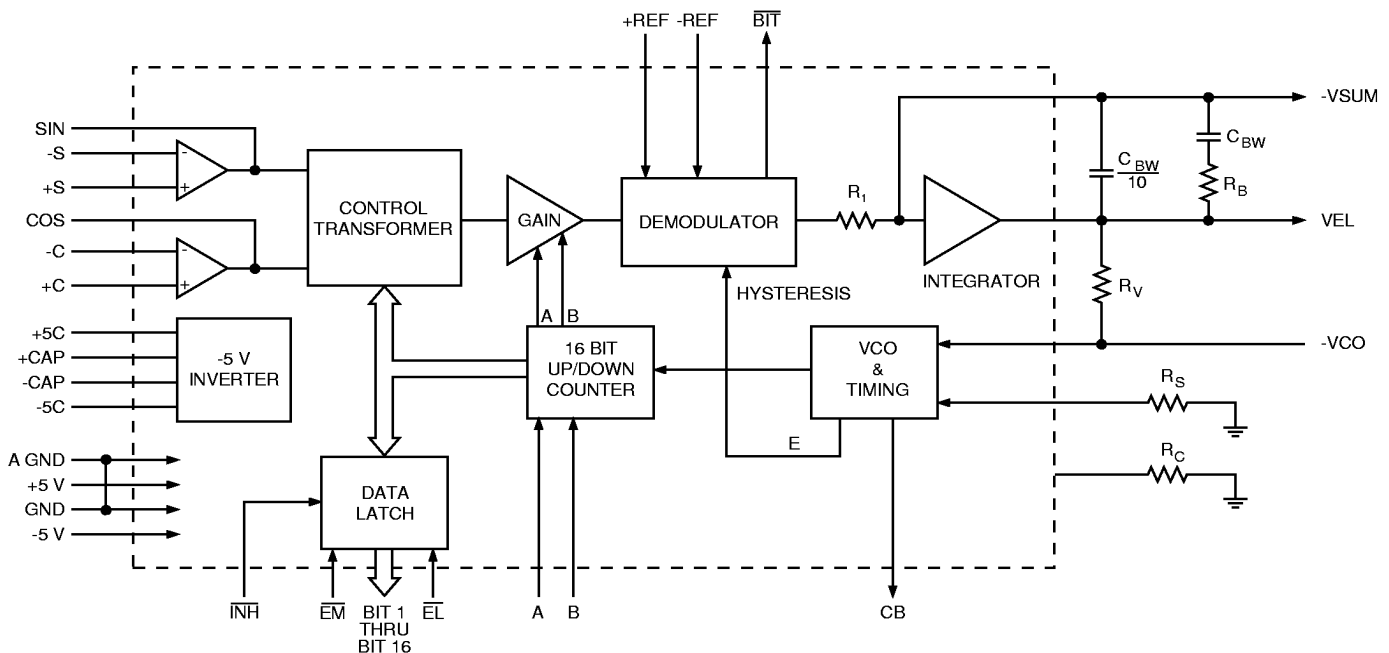

FIGURE 1. RDC-19220 SERIES BLOCK DIAGRAM
FIGURE 1 is the functional block diagram of the RDC-19220 Series. The converter operates with ± 5 Vdc power supplies. Analog signals are referenced to analog ground, which is at ground potential. The converter is made up of two main sections; a converter and a digital interface. The converter front-end consists of sine and cosine differential input amplifiers. These inputs are protected to ± 25 V with $2\text{ k}\Omega$ resistors and diode clamps to the ± 5 Vdc supplies. These amplifiers feed the high accuracy Control Transformer (CT). Its other input is the 16-bit digital angle ϕ . Its output is an analog error angle, or difference angle, between the two inputs. The CT performs the ratiometric trigonometric computation of $\text{SIN}\theta\text{COS}\phi - \text{COS}\theta\text{SIN}\phi = \text{SIN}(\theta - \phi)$ using amplifiers, switches, logic and capacitors in precision ratios. **Note:** The transfer function of the CT is normally trigonometric, but in LDVT-mode the transfer function is triangular (linear) and could thereby convert any linear transducer output.